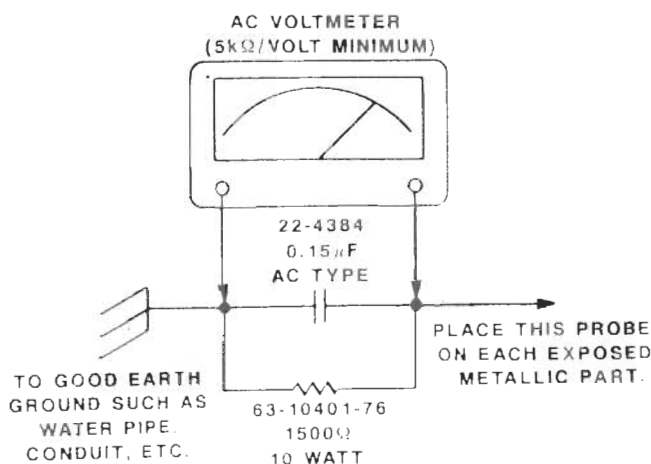

Figure 6-2. AC Leakage Voltmeter Circuit
1. Construct an AC leakage voltmeter circuit as shown in Figure 6-2 using the following parts: